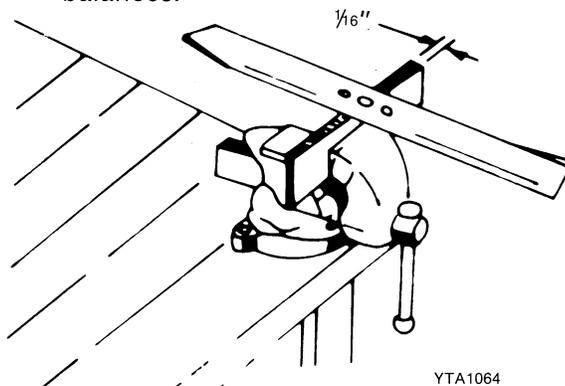

FIG. 11
- D. After sharpening, check blade for balance by supporting blade as shown in (Fig. 11), using the center hole as a guide. File or grind metal from heavy end of blade until the blade balances.